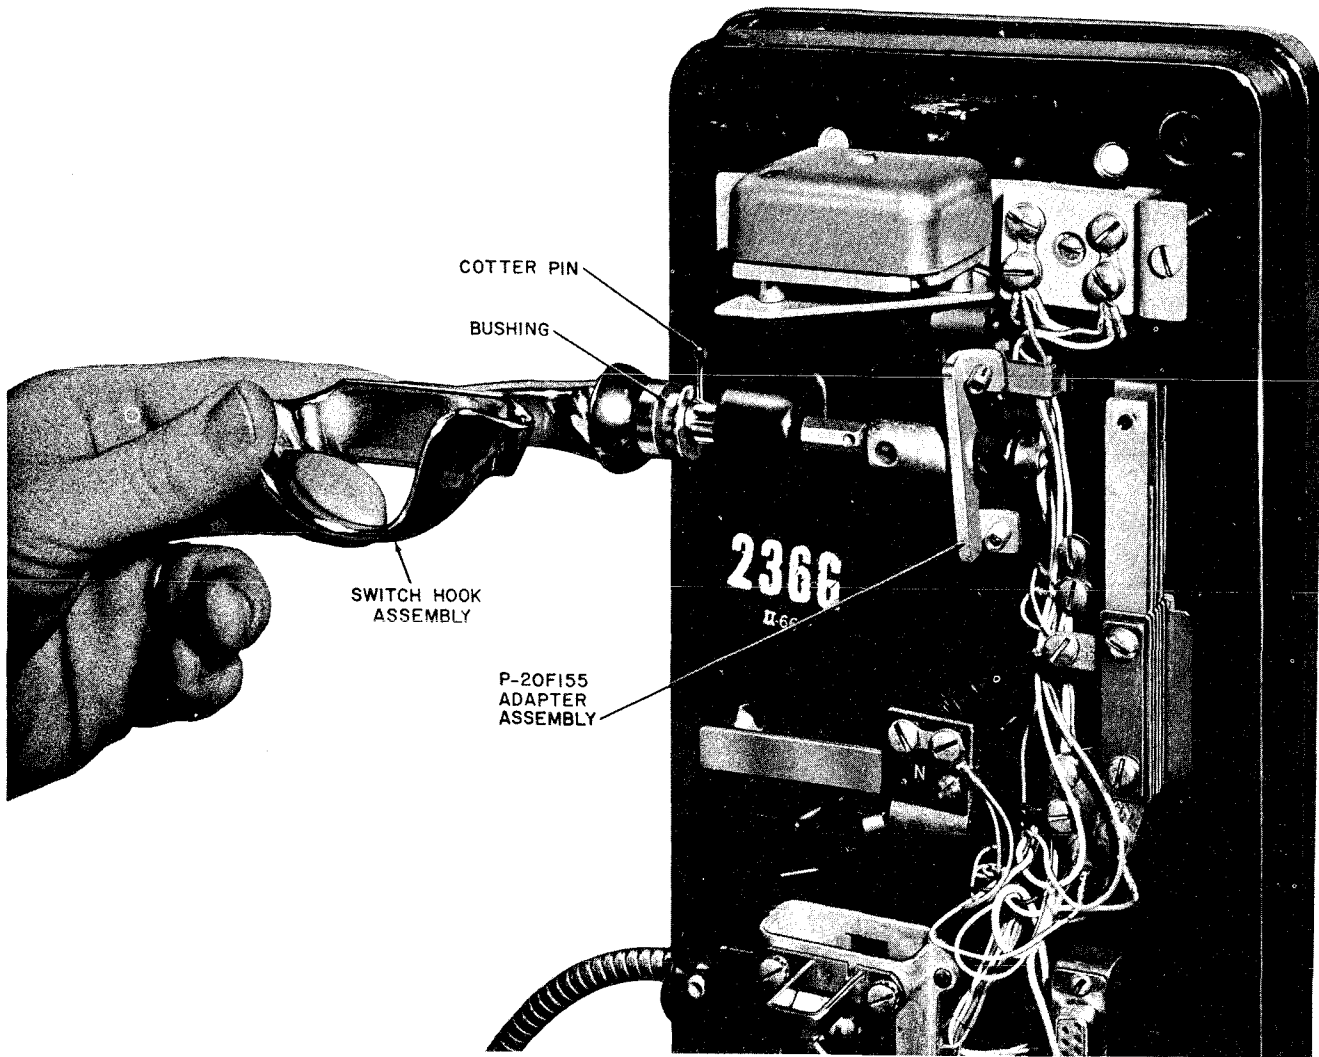
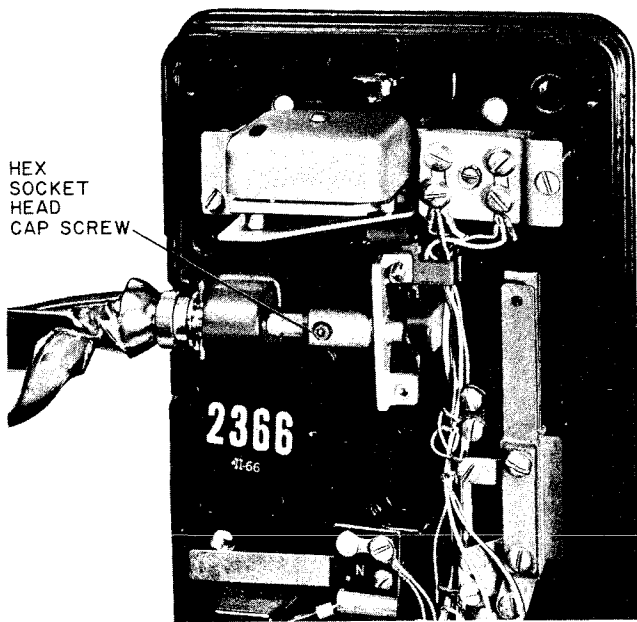
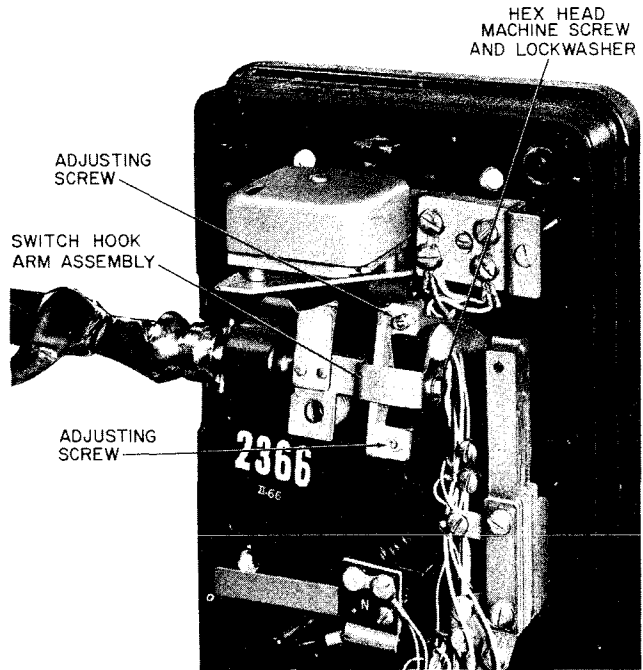

Fig. 37—Installation of Adapter Assembly and Switch Hook Assembly
Fig. 38—Method of Securing Adapter to Switch Hook Assembly
Fig. 39—Installation of Switch Hook Arm Assembly
- (3) Secure bushing on shaft with a cotter pin (Fig. 37).
- (4) Slide the P-20F155 adapter assembly into right bearing (Fig. 37).
- (5) Slide switch hook assembly with bushing installed, in left bearing to mate with adapter assembly.
- (6) Secure adapter to shaft with hex socket head cap screw (Fig. 38). Screw is furnished with kit.
- (7) Install P-297872 spacing washers as required to reduce excessive end play. End play of switch hook shaft shall not exceed 1/32-inch.
- (8) Place switch hook arm assembly (Fig. 39) retained in 3.44 over switch hook shaft and secure to end of adapter shaft with lockwasher and hex head machine screw retained in 3.44(1). Install tension spring.
3.49 Adjust switch hook travel with the two adjusting screws (Fig. 39) to meet contact spring pile up requirements as described in Section 506-110-301.